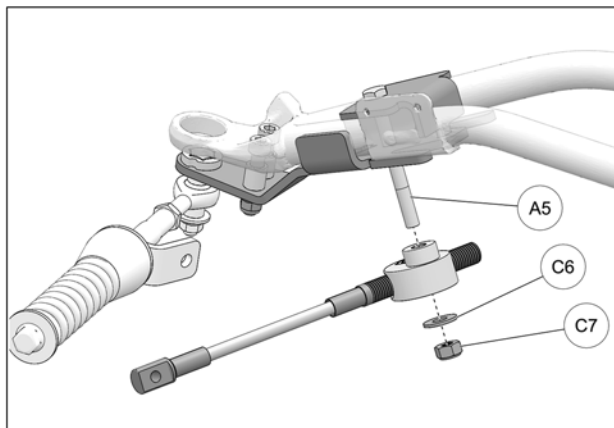

Fig. 27
17. Position Steering limiter cable assembly under front anchor bracket and slide it up on the previously inserted bolt (A5). Assemble using washer (C6) and nut (C7). Tighten nut to 50 N•m [37 lb•ft]. See Fig. 27